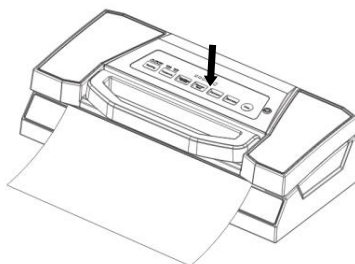

Fig.7
8. Press “Maunal Seal” button to start sealing the bags -**Fig.7**